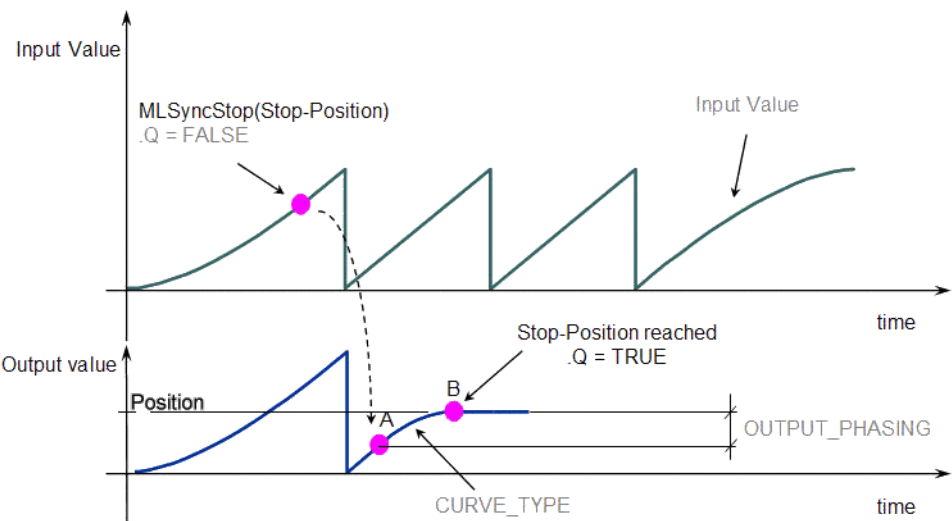

Figure 4-61: Get Output Phasing after MLSyncStop
- The OUTPUT_PHASING parameter is used to define point A, where the flow follows a curve in order to smooth the output value. (Figure 4-61)